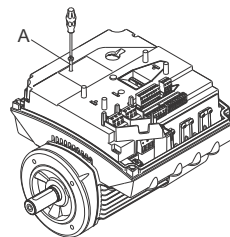

Fig. 73 Removing the securing screw
3. Remove the securing screw (fig. 73, A).
5. Fit and tighten the securing screw (fig. 73, A) to 1.3 Nm.